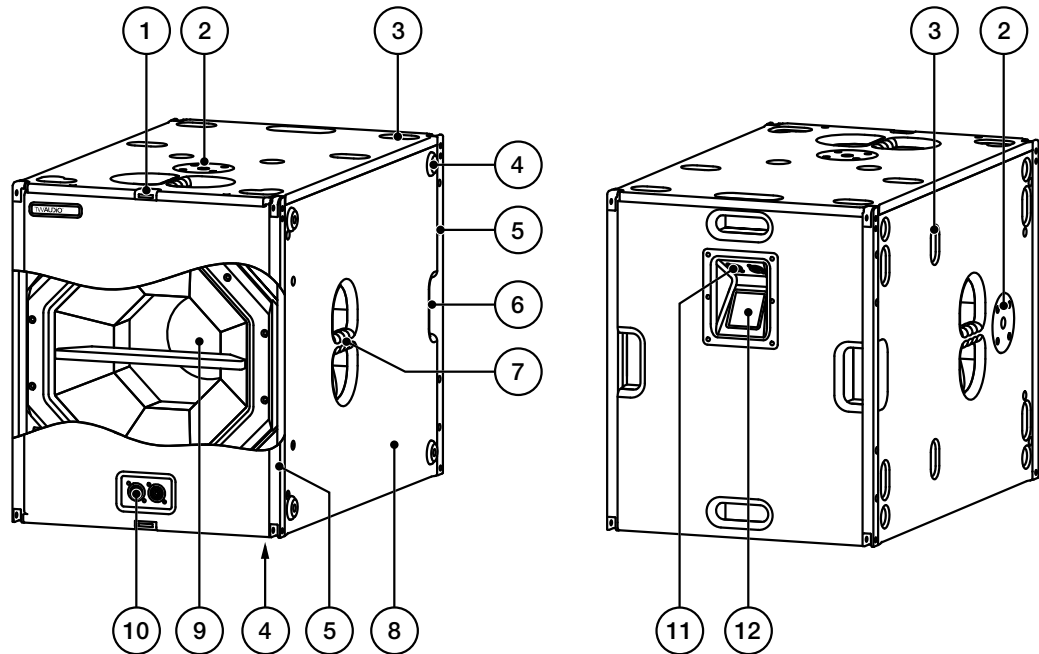

Figure 2.1 - Overview
Make sure that the maximum load of 50kg / 110lbs for the M20 pole mount flange is not exceeded! Figure 2.1 – Item 2.
The M20 pole mount flange (figure 2.1- item 2) is not designed for side forces once mounted – do not apply any pressure from the sides.
Please note that only centered loads are allowed to be placed on the M20 pole mount flange – Figure 2.1 – Item 2.
Please note that the VERAS18 loudspeakers must be mechanically correctly connected with each other. This may only be done via the front and rear rigging tracks (see figure 2.1 - pos.5) and additional box link set BLS!